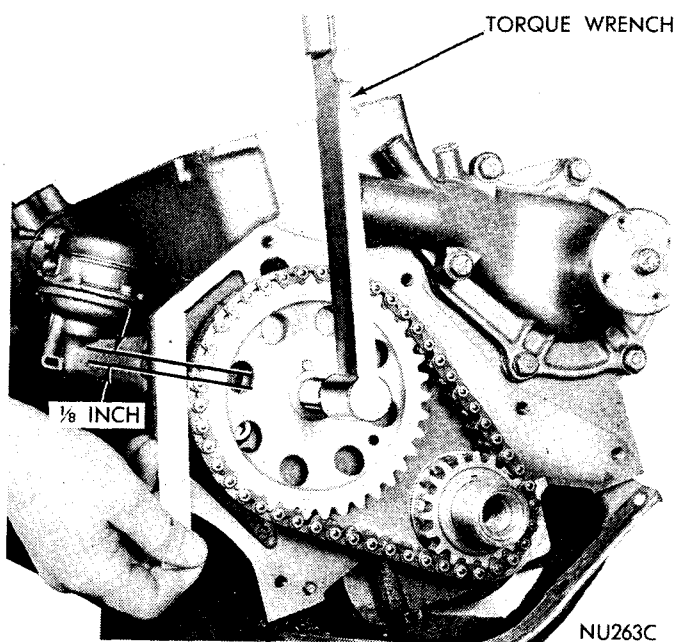

Fig. 18—Measuring Timing Chain Stretch
(3) Holding a scale with dimensional reading even with the edge of a chain link, apply torque in the reverse direction 30 foot-pounds (cylinder head installed) or 15 foot-pounds (cylinder head removed) and note the amount of chain movement (Fig. 18).
(4) If chain movement exceeds 3/16 inch, install a new timing chain.
(5) If chain is not satisfactory, remove camshaft sprocket attaching bolt and remove timing chain with camshaft sprocket.
(6) Turn crankshaft to line up the centerline of camshaft and crankshaft with the timing mark on crankshaft sprocket.